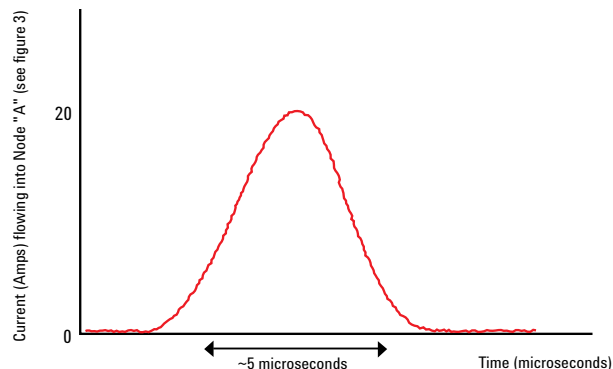

Figure 8: Solenoid current profile with working smart driver when load is shorted
Verifying that the smart driver responds appropriately to a short detection may require analog to digital conversion. Two facts should be verified: (1) the μ C registers an over current condition when the solenoid load is shorted; (2) the smart driver reacted appropriately by shutting down to prevent damage. Verifying these facts requires knowledge of the peak and duration of the solenoid current profile, as seen in Figure 8. Finally, interrogation via the serial link will determine if the ECM was informed of an over current condition.